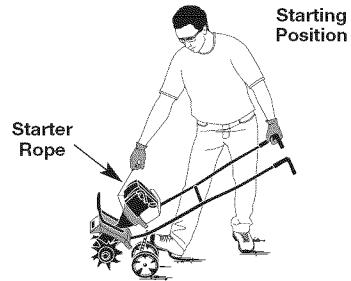

Fig. 10
**WARNING:** Avoid accidental starting. Make sure to be in the starting position when pulling the starter rope (Fig. 10). To avoid serious injury, the operator and unit must be in a stable position while starting.
- Hold the handlebar with one hand and grab the starter rope with the other hand, **do not squeeze the throttle control** (Fig. 10). Using one foot to hold down the cultivator. Pull the starter rope 5 times.